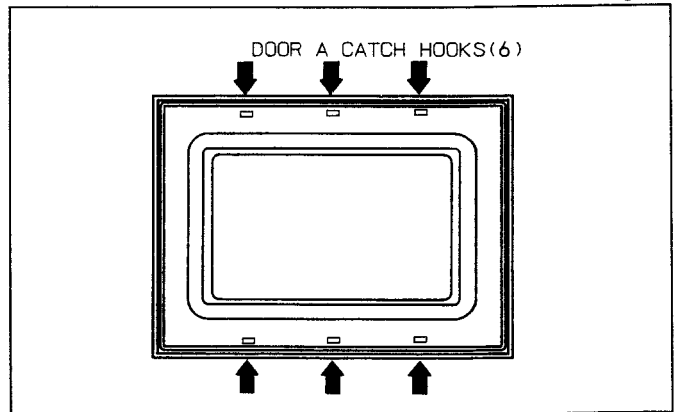

Fig. 23
(F) Separate the door A from door E by carefully freeing the 6 catch hooks on door A while pulling outward. (See Fig. 23)